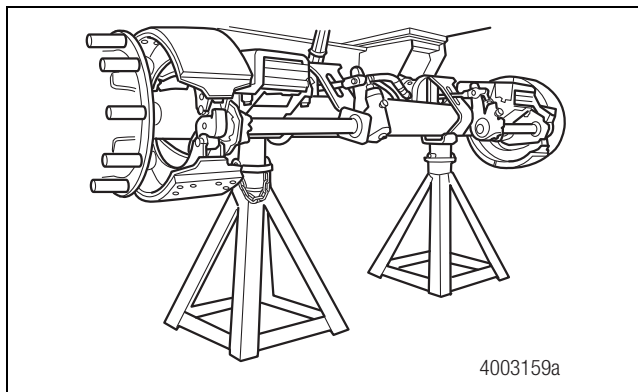

Figure 3.6
4. Place safety stands under the trailer frame or under each axle spring seat. Figure 3.6.